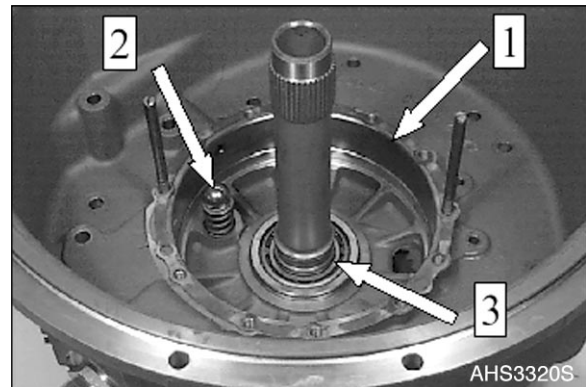

Figure 384
9. Install two adjusting screws and mount gasket (1, Figure 384).
10. Install converter safety valve (disk, compression spring and ball), see (2, Figure 384). Squeeze both rectangular rings into the annular grooves of the input shaft and engage them (3, Figure 384).